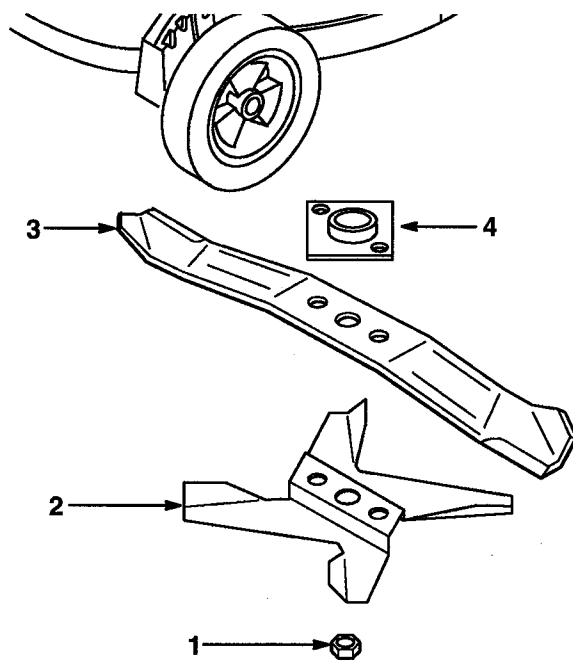

Figure 26
1. Remove blade nut and mulching fan (Fig. 26).
2. Remove blade from blade driver (Fig. 26).
1. Install blade driver onto crankshaft (if removed) (Fig. 26).